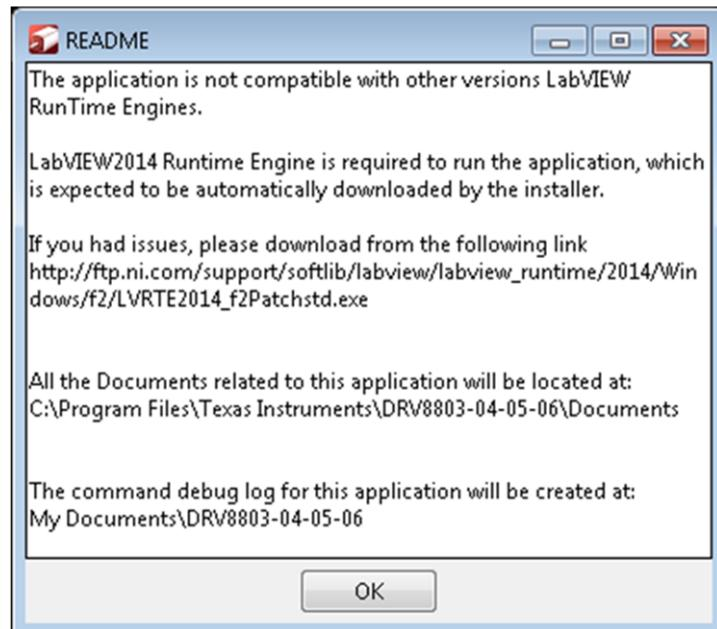

Figure 23. Readme Window
20. A Readme window as shown in Figure 23 appears displaying the link for LV 2014 RTE.